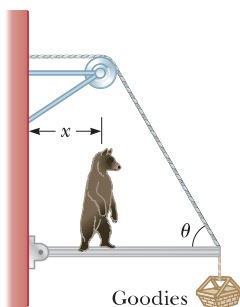

Figure P12.43
43. **AMT** A hungry bear weighing 700 N walks out on a beam in an attempt to retrieve a basket of goodies hanging at the end of the beam (Fig. P12.43). The beam is uni-